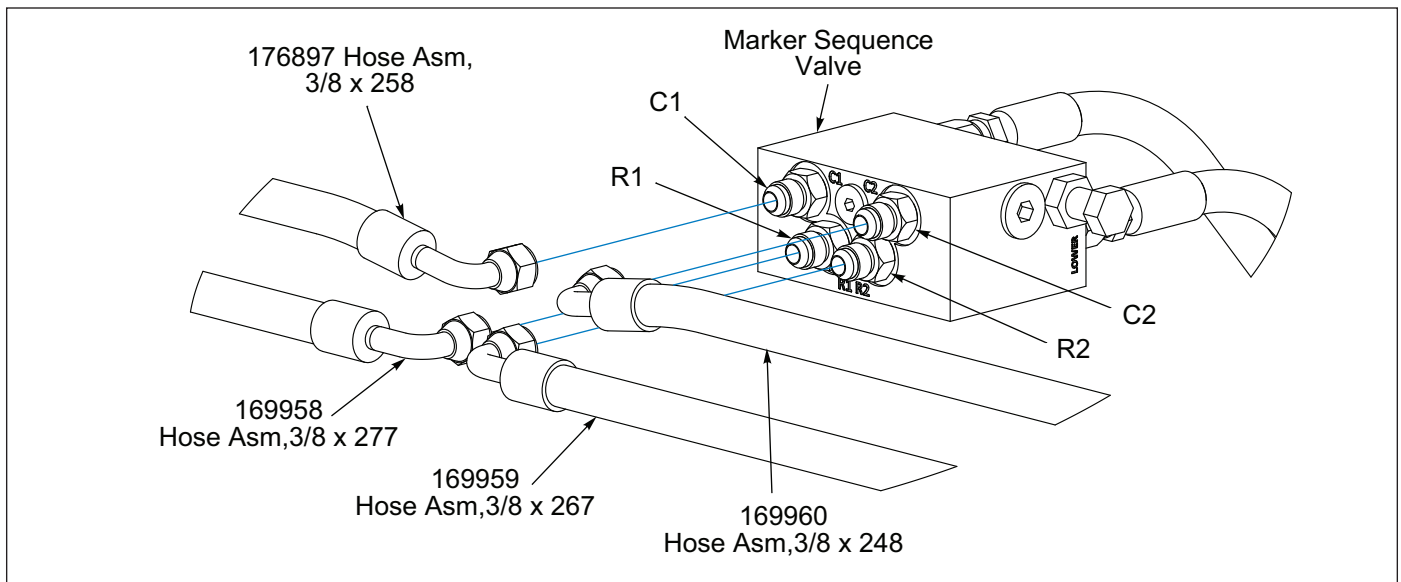

Figure 2-35: Marker Sequence Valve
5. Connect Hydraulic Cylinder to the Marker Sequence Valve with Hoses as follows: **See Figure 2-35.** Wrap both RH and both LH Hoses near the Row Marker Hinge Pin area with Black 26 inch Hose Wrap.